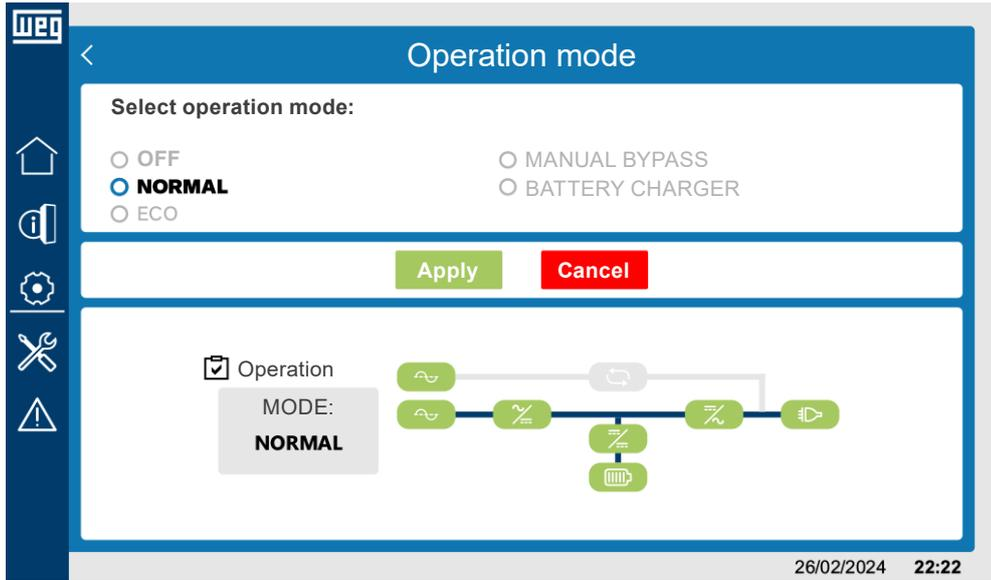

Figure 6.27: Synoptic diagram in normal operating mode with battery connected
- Normal mode with battery connected: Figure 6.27 on page 6-21.